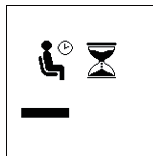

Fig.22
12. Once the CCA rating of the battery was put in, press ↻ key to start the testing process. Refer to the display Fig.22 below